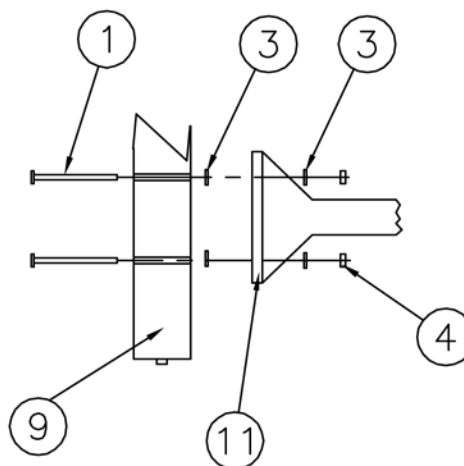

FIGURE 3
INSERT SCREWS (1) INTO POST (9). SLIDE WASHER (3) OVER SCREW ENDS. ALIGN HOLES IN LINK SPRING END BRACKET (11) TO SCREWS IN POST. SLIDE METAL WASHERS (3) OVER SCREWS. SCREW NUT (4) ONTO SCREW. REPEAT ON OTHER 3 CORNERS OF LINK SPRING. (SEE FIGURE 3)